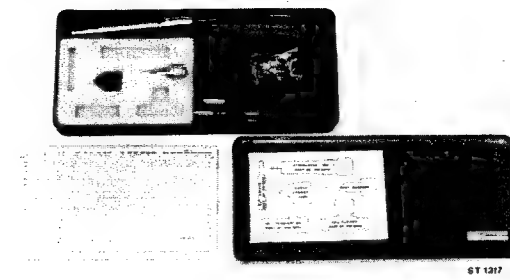
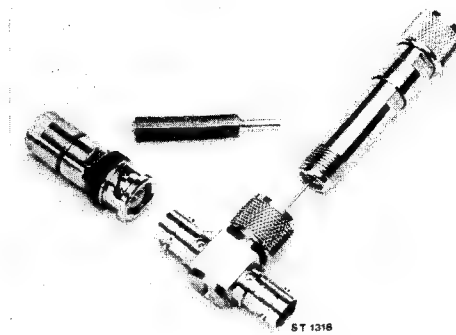

Fig. 2. HF-probe PM 9210
Fig. 3. Accessory set PM 9212
3.2.1. HF probe type PM 9210 (Fig. 2) Accessory set for the probe type PM 9212 (Fig. 3).